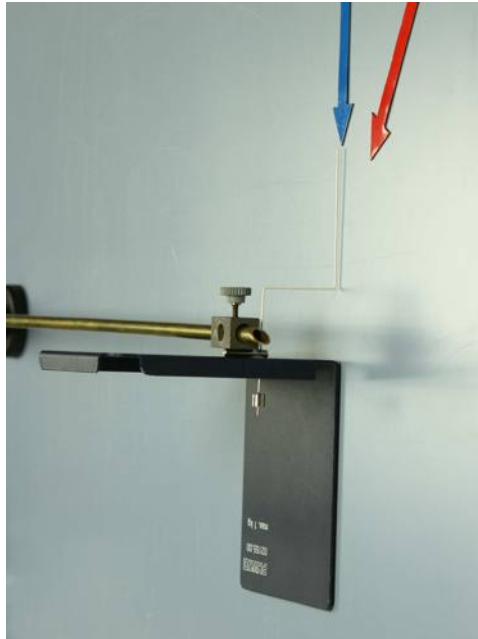

Figure 3: Close up of the rolling shaft with pointer
10. Now the rolling shaft is prepared, see figure 3. Stick the counterweight of the pointer through the hole in the support plate. The rolling shaft lies on the plate. Make sure there is a right angle between shaft and board, so that the pointer can move freely.